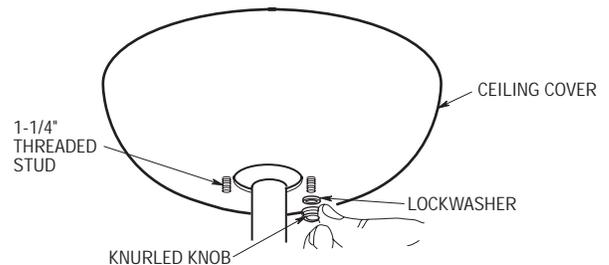

Figure 17
- 2. Lift the ceiling cover up to the threaded studs and turn until studs protrude through the holes in the ceiling cover (Figure 17).
- 3. Secure the ceiling cover in place by installing two lockwashers and two knurled knobs (supplied) (Figure 17). Tighten the knurled knobs securely until the ceiling cover fits snugly against the ceiling and the hole in the ceiling cover is clear of the downrod.